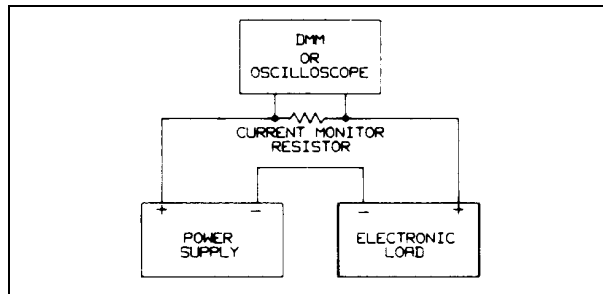

Figure 2-1. Test Setup A
Table 2-1 lists the test equipment required to perform the tests in this chapter. Test setups for the tests are shown in Figures 2-1 through 2-3. Make sure the sense switch on the rear of the load is set to the LCL position since local sensing is used in all of the test setups. Use adequate wire gauge when making connections (see Chapter 3 in the Operating Manual).
- a. Connect the Electronic Load, power supply (Agilent 6031A/6032A or equivalent), DMM, and the 0.010 ohm (6060B) or 0.100 ohm (6063B) current monitor resistor as shown in Figure 2-1.
- a. Connect the Electronic Load, power supply (Agilent 6032A/6035A or equivalent), and the 0.100 ohm current monitor resistor as shown in Figure 2-1. Use the DMM to measure the voltage across the monitor resistor and across the Electronic Load's input terminals.